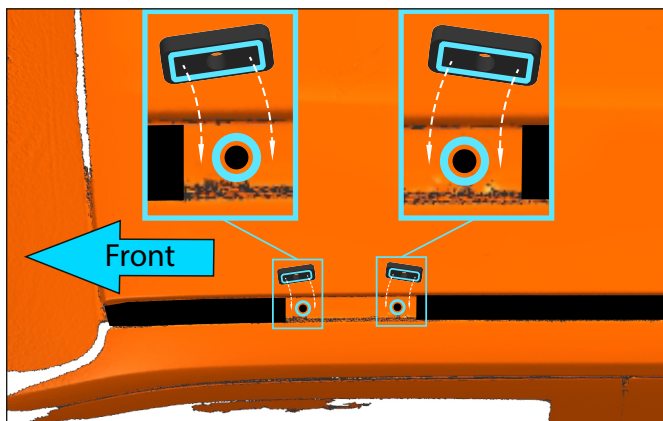
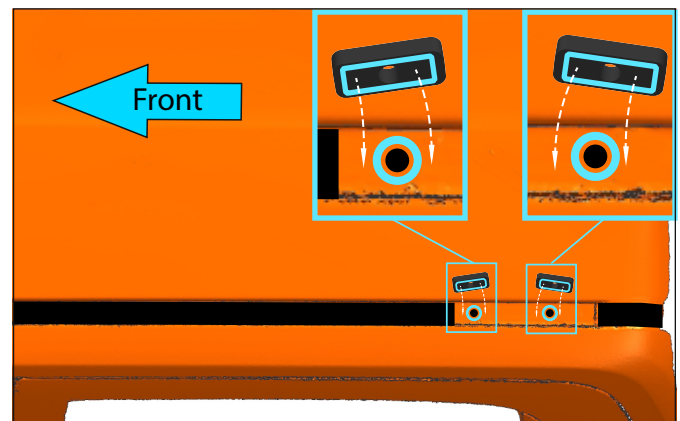

Fig. 5
Fig. 6
3. Apply the sealant (item L) to the spacers (item K) and holes and put the spacers at the holes as shown in fig.5 and fig.6 on both sides of the vehicle.